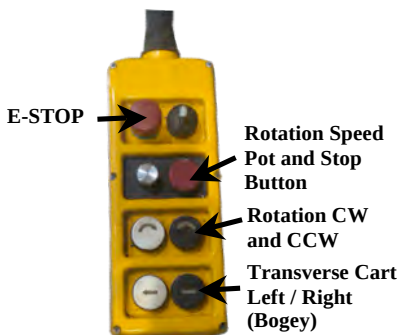

Figure 5.3 TR-D Pendant
5.2.2 20 Tonne Turning Rolls Driven Pendant (Figure 5.3)